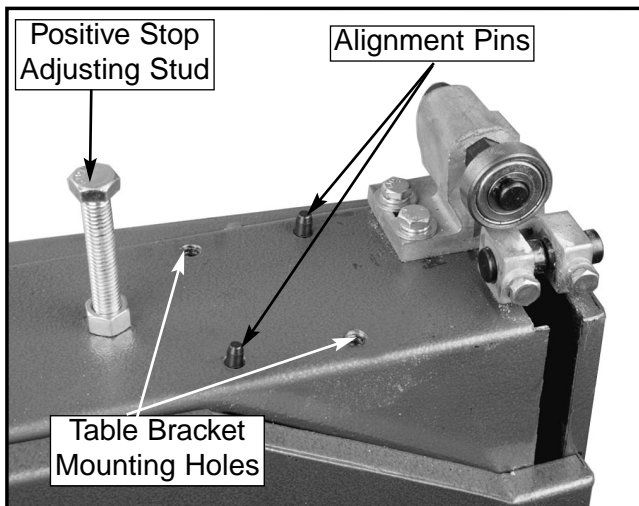

Figure 5. Alignment pins and mounting holes.
1. Remove the two table bracket mounting bolts (#78) from the bandsaw body. **Figure 5** shows them removed.
2. There are two alignment pins (#50) that cross diagonally between the bracket mounting bolts. See **Figure 5**. Place the table bracket on the body over the alignment pins and secure it to the bandsaw with the two bolts.
The bandsaw table will tilt left 10° and right 45° from horizontal. There is a positive stop adjusting stud (#49) so the table can be re-set perpendicular to the blade after tilting it left or right. **See Figure 5.** To tilt the table: